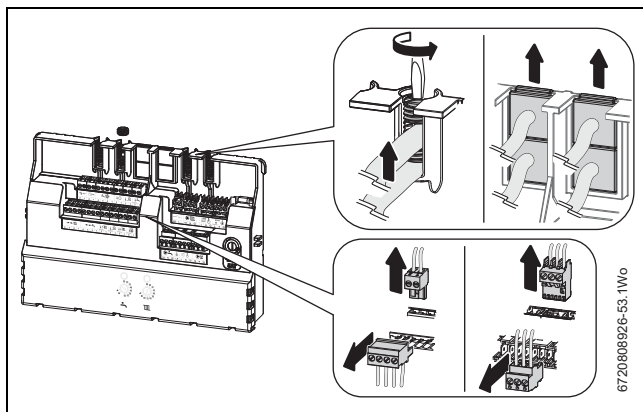

Fig. 74 Removing connectors and associated strain reliefs.
- ▶ Before the control unit can be replaced, refer to figure 74: